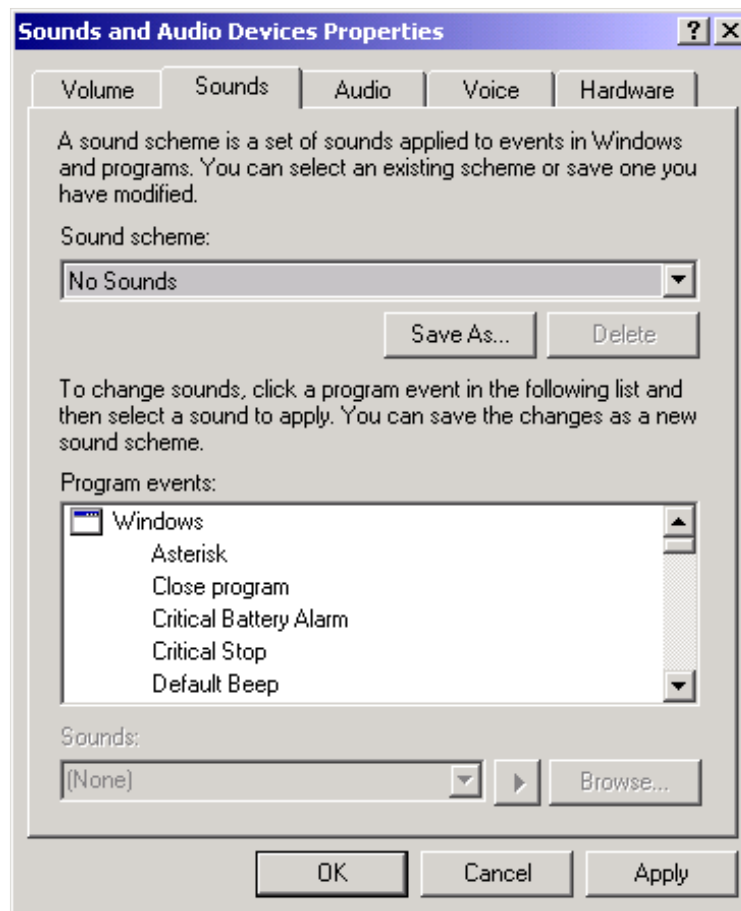

FIGURE 133. No Sounds selected
10. When you have done that, your screen should appear as Figure 133: